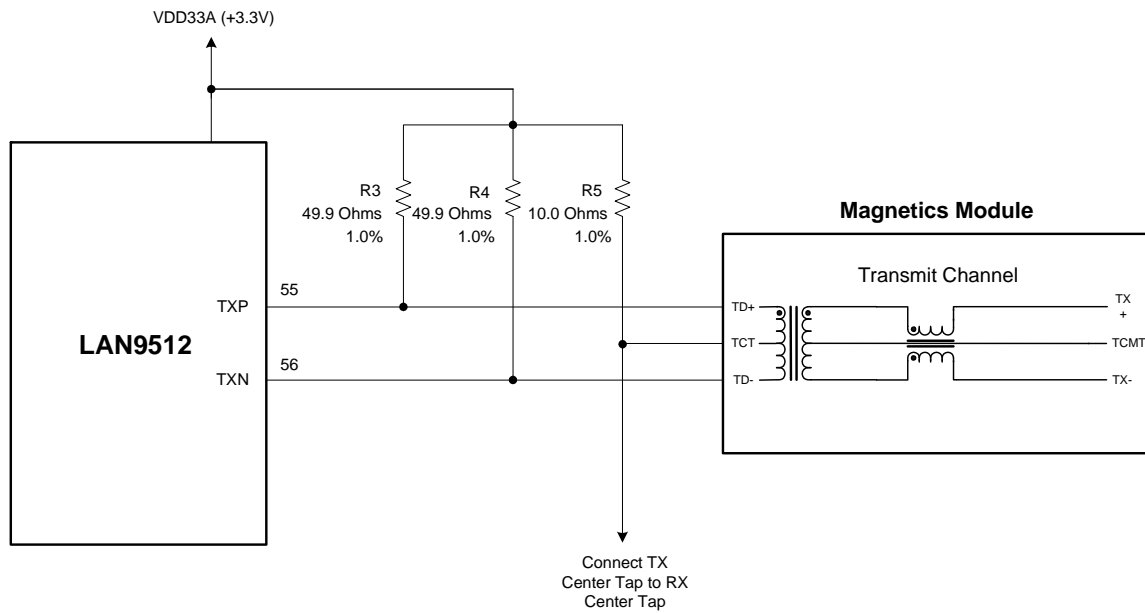

Figure 1 – Transmit Channel Connections and Terminations
3. For Transmit Channel connection and termination details, refer to Figure 1.